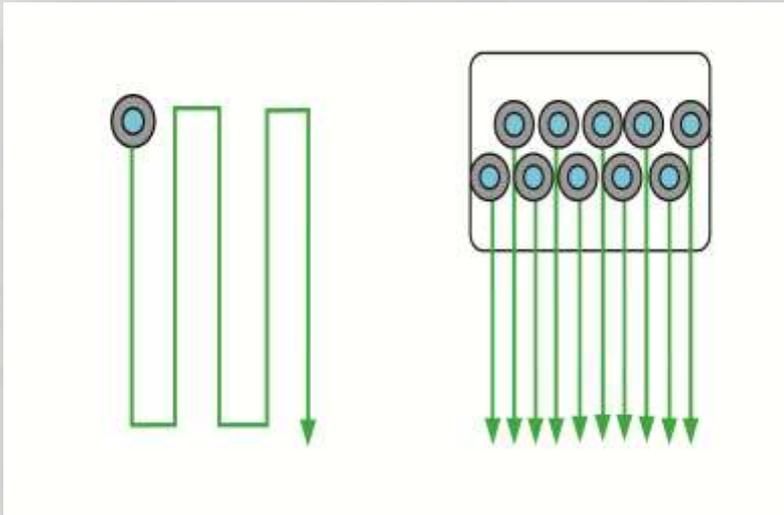

FIGURE 2: Eddy Current Single Coil Probe compared to Eddy Current Array Coil Probe
- Eddy Current (ET) Pencil Probe. It is faster than MT, LT & UT but is very time consuming as the pencil probe must be moved rapidly to cover the entire flank surface. (Fig. 2) Interpretation of results rely solely on the inspector.
- ECA was developed just before the 20th century. ECA technology provides the ability to drive electronically multiple eddy current coils placed side by side in the same probe assembly (Fig. 2)